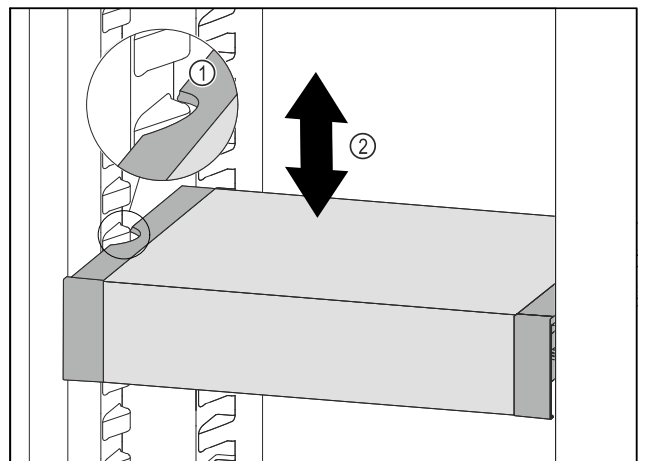

Fig. 73
- ▶ Pull VarioSafe forwards until the recesses in the side of the VarioSafe are at the level of the support rib in the refrigerator compartment. Fig. 73 (1)
- ▶ Move VarioSafe up or down in the refrigerator compartment until the desired height is reached. Fig. 73 (2)